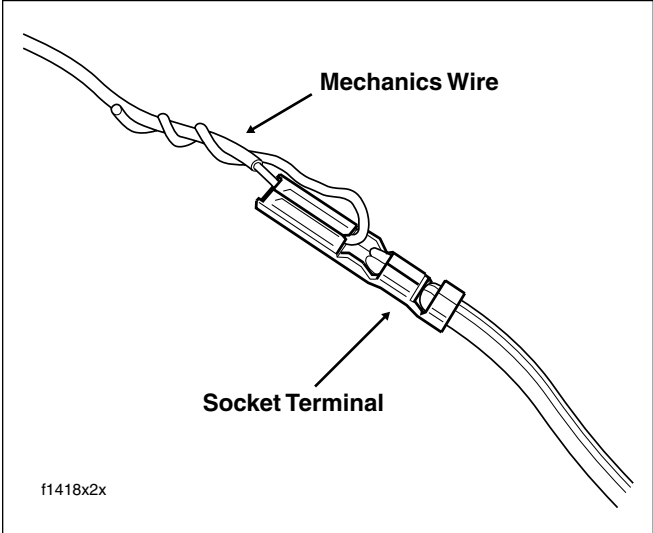

Figure 8-58. Fix Mechanics Wire to Socket Terminals
4. Obtain three equal lengths of strong flexible wire for use as mechanics wire. Feed wire through opening in socket terminal and then loop back twisting end until tightly coiled around longer strand as shown in Figure 8-58. Repeat step with remaining socket terminals.